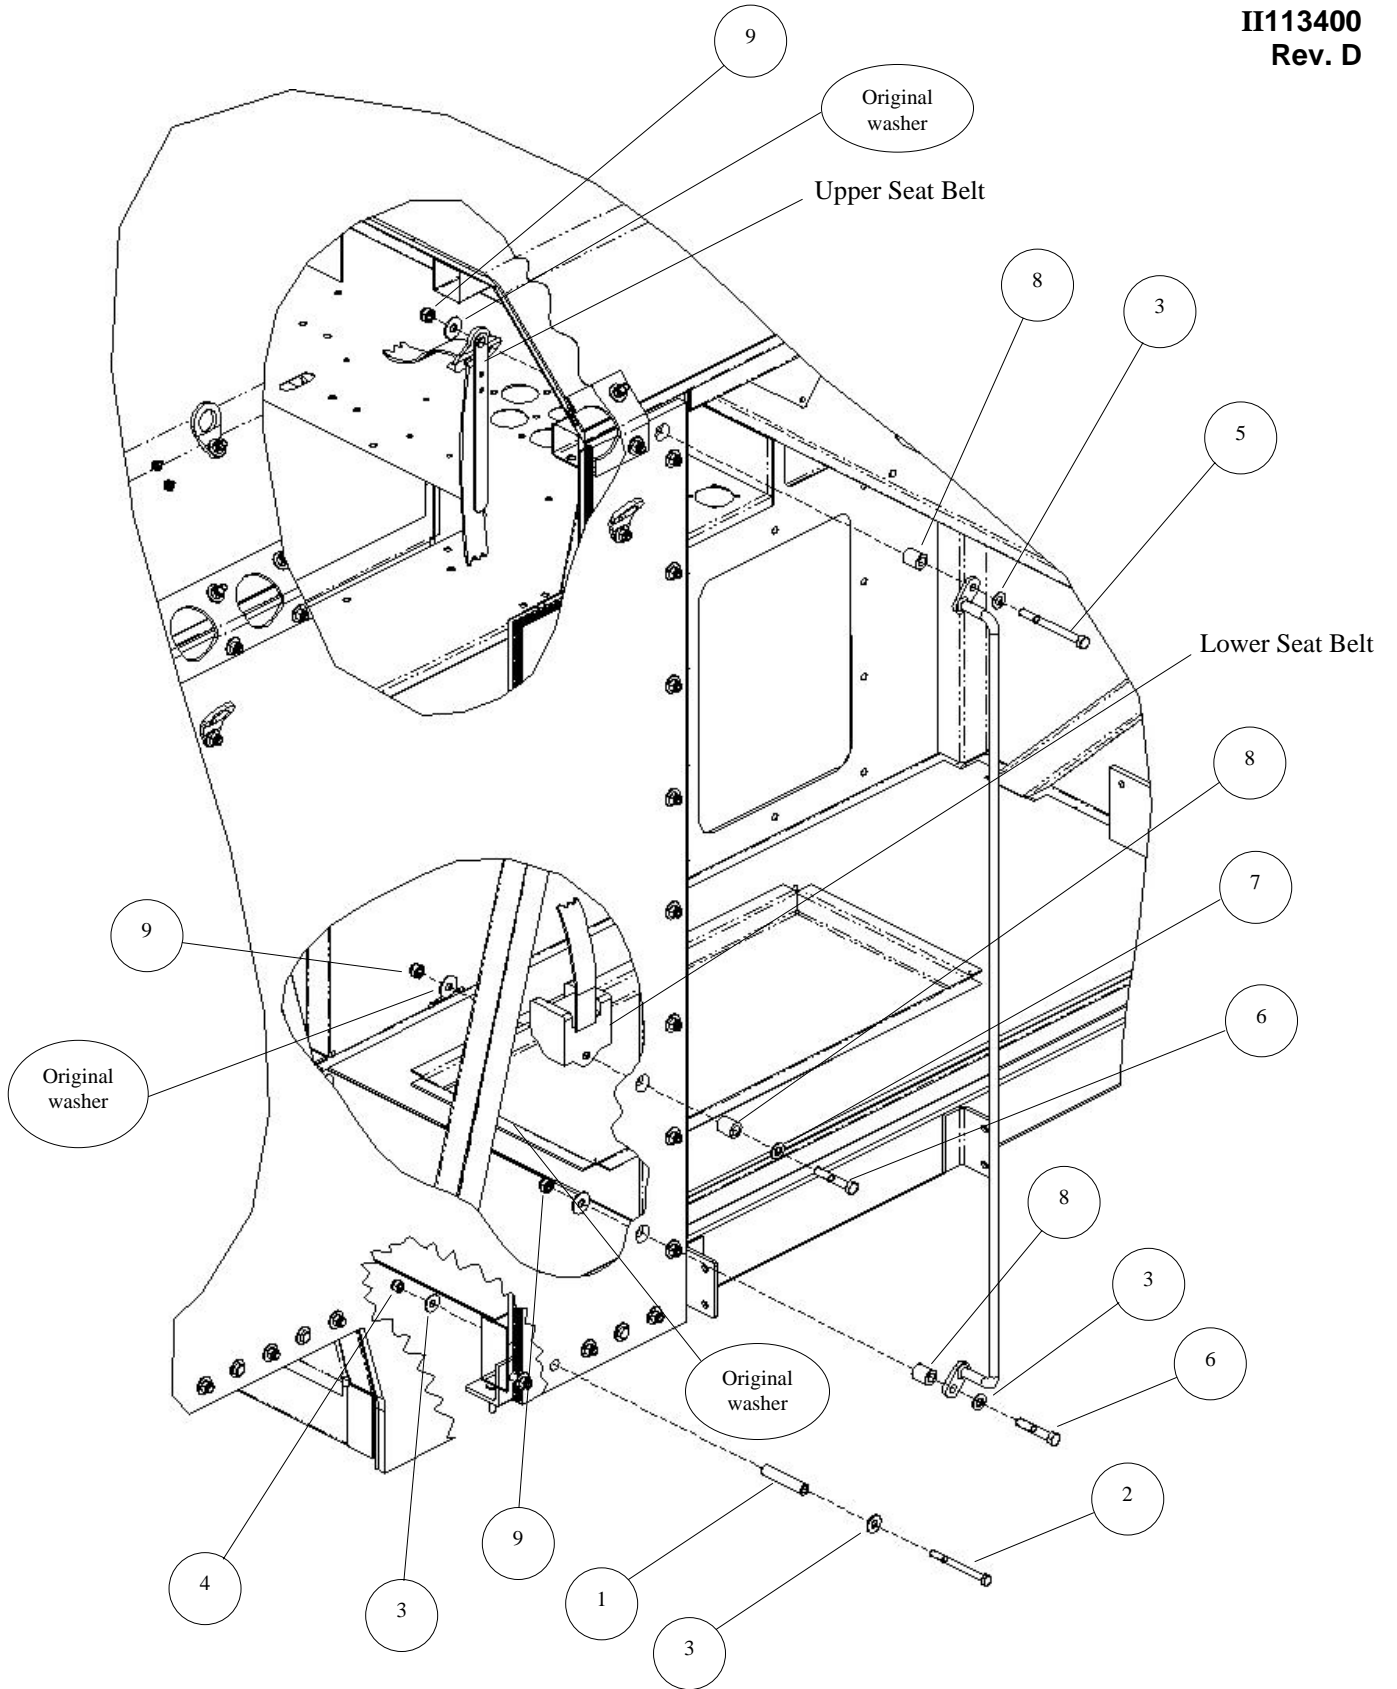

Figure 3-25. Cab Frame Rail Sleeve Bushing and Grab Handle Installation.
4. Install cab frame rail sleeve bushings, grab handle, and seat belt assemblies as follows (see Figure 3-25):
- a. Re-install grab handle and seat-belt assembly (retained from Teardown, Chapter 2) using one bolt (5), one bolt (6), two flat washers (3), two original washers, two spacers (8), upper seat-belt assembly (retained from Teardown, Chapter 2), and two locknuts (9). Torque locknut on bolt (5) to 7 lb-ft. Torque locknut on bolt (6) to 55 lb-ft.
- b. Re-install lower seat-belt retractor (retained from Teardown, Chapter 2), using one bolt (6), one spacer (8), one flat washer (7), one original washer, and one locknut (9). Torque locknut to 55 lb-ft.